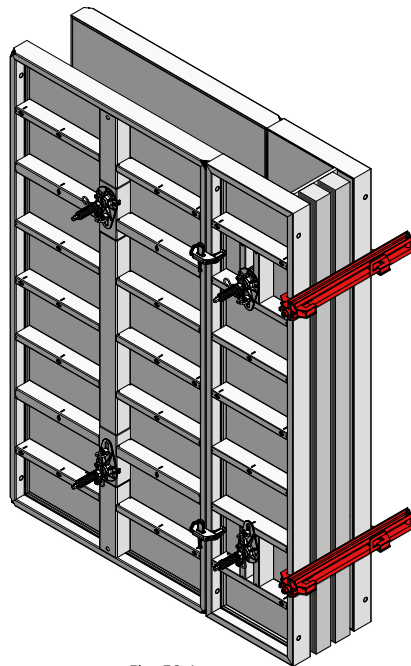

Fig. 59.1
- It is attached at the height of the tie holes (Fig. 59.1).